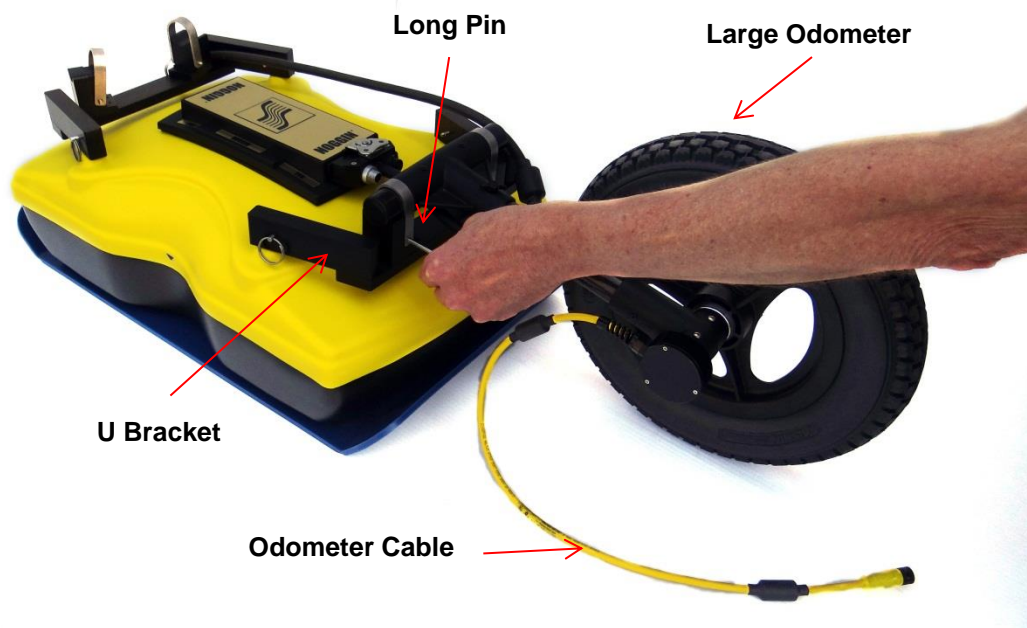

Figure 2-45: Attaching odometer wheel to one of the SmartTow brackets
9. Secure the odometer T-bar with the U-brackets and pins (Figure 2-45).